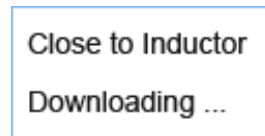

Fig. 8
- press “RUN”→ screen displays *Fig.8*